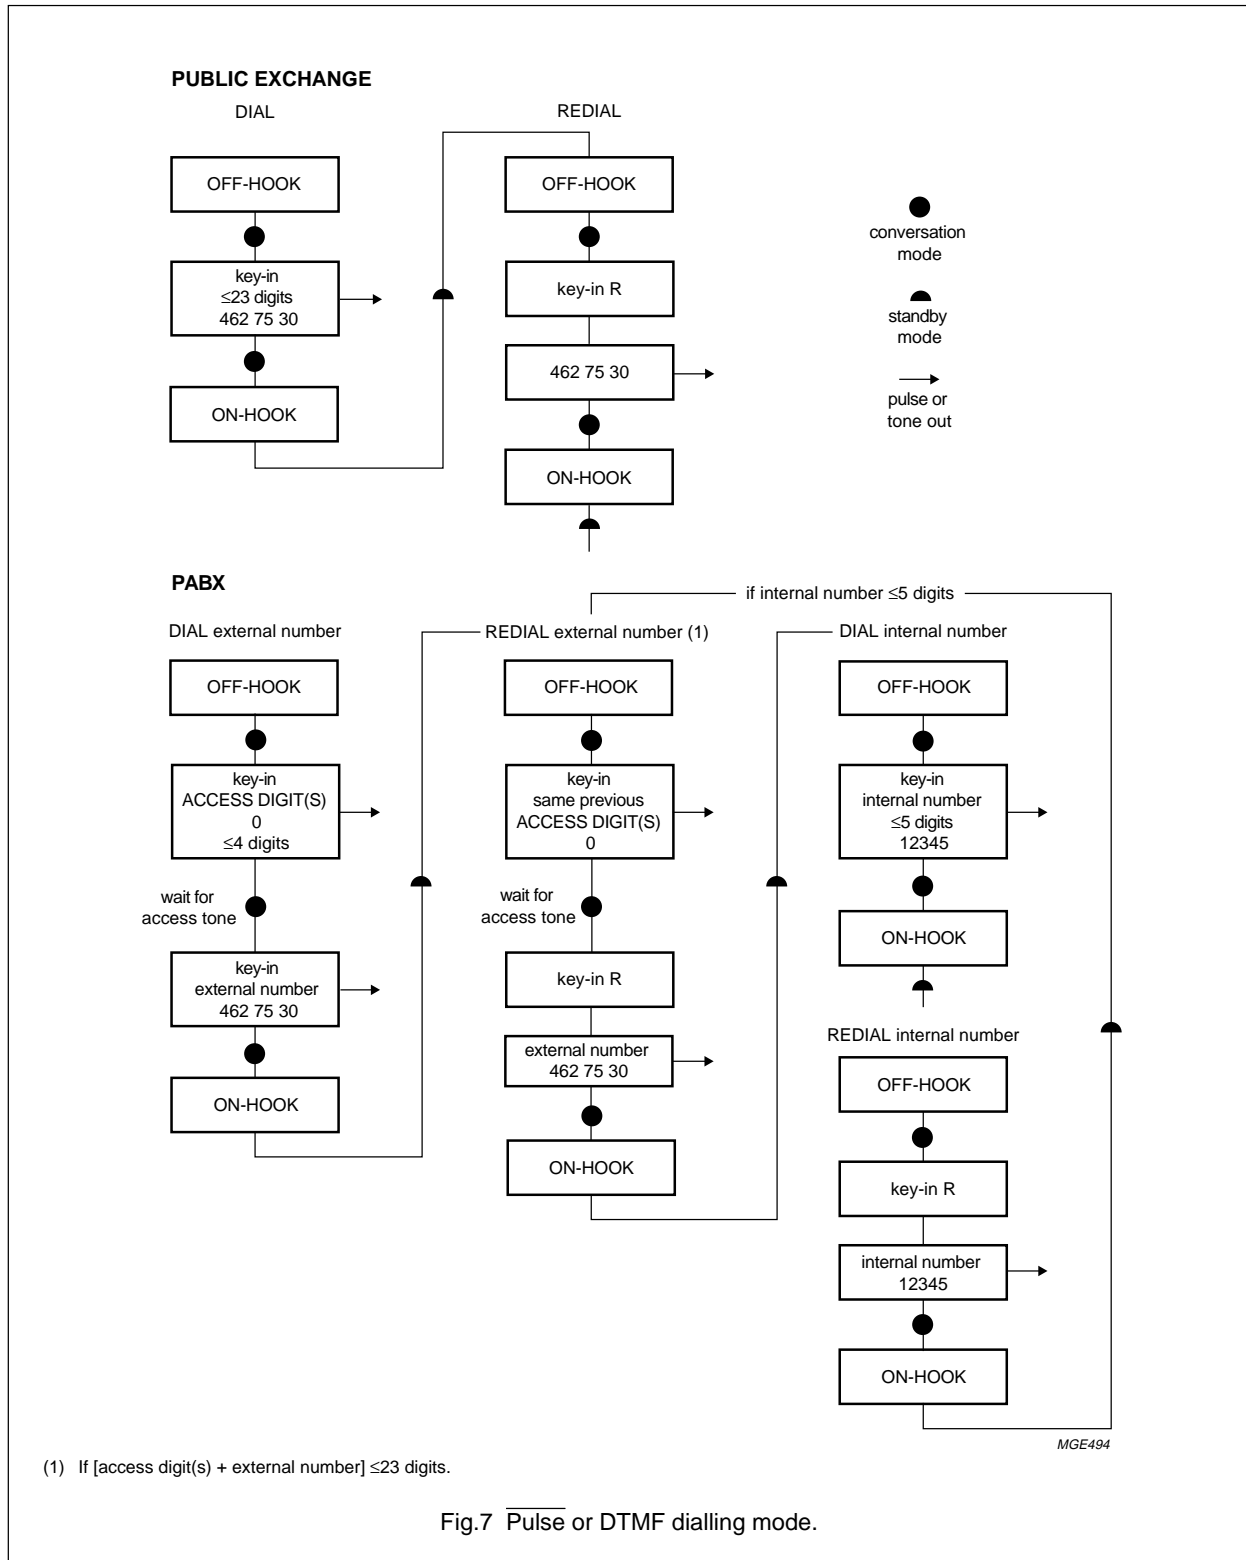

Fig.7 Pulse or DTMF dialling mode.
**8 DIALLING PROCEDURES** (see Figs 7, 8 and 9)**8.1 Dialling**
Because access to an external line from a PABX usually involves dialling an access code and waiting for an access tone, a 'one-press' redial may fail due to insufficient delay between the access code and the external number. For this reason, the access code should be redialled. If the access code (up to 4 digits) matches the first part of the stored number, then pressing R after the access tone is obtained will cause the rest of the number to be redialled (see Fig.7, PABX).